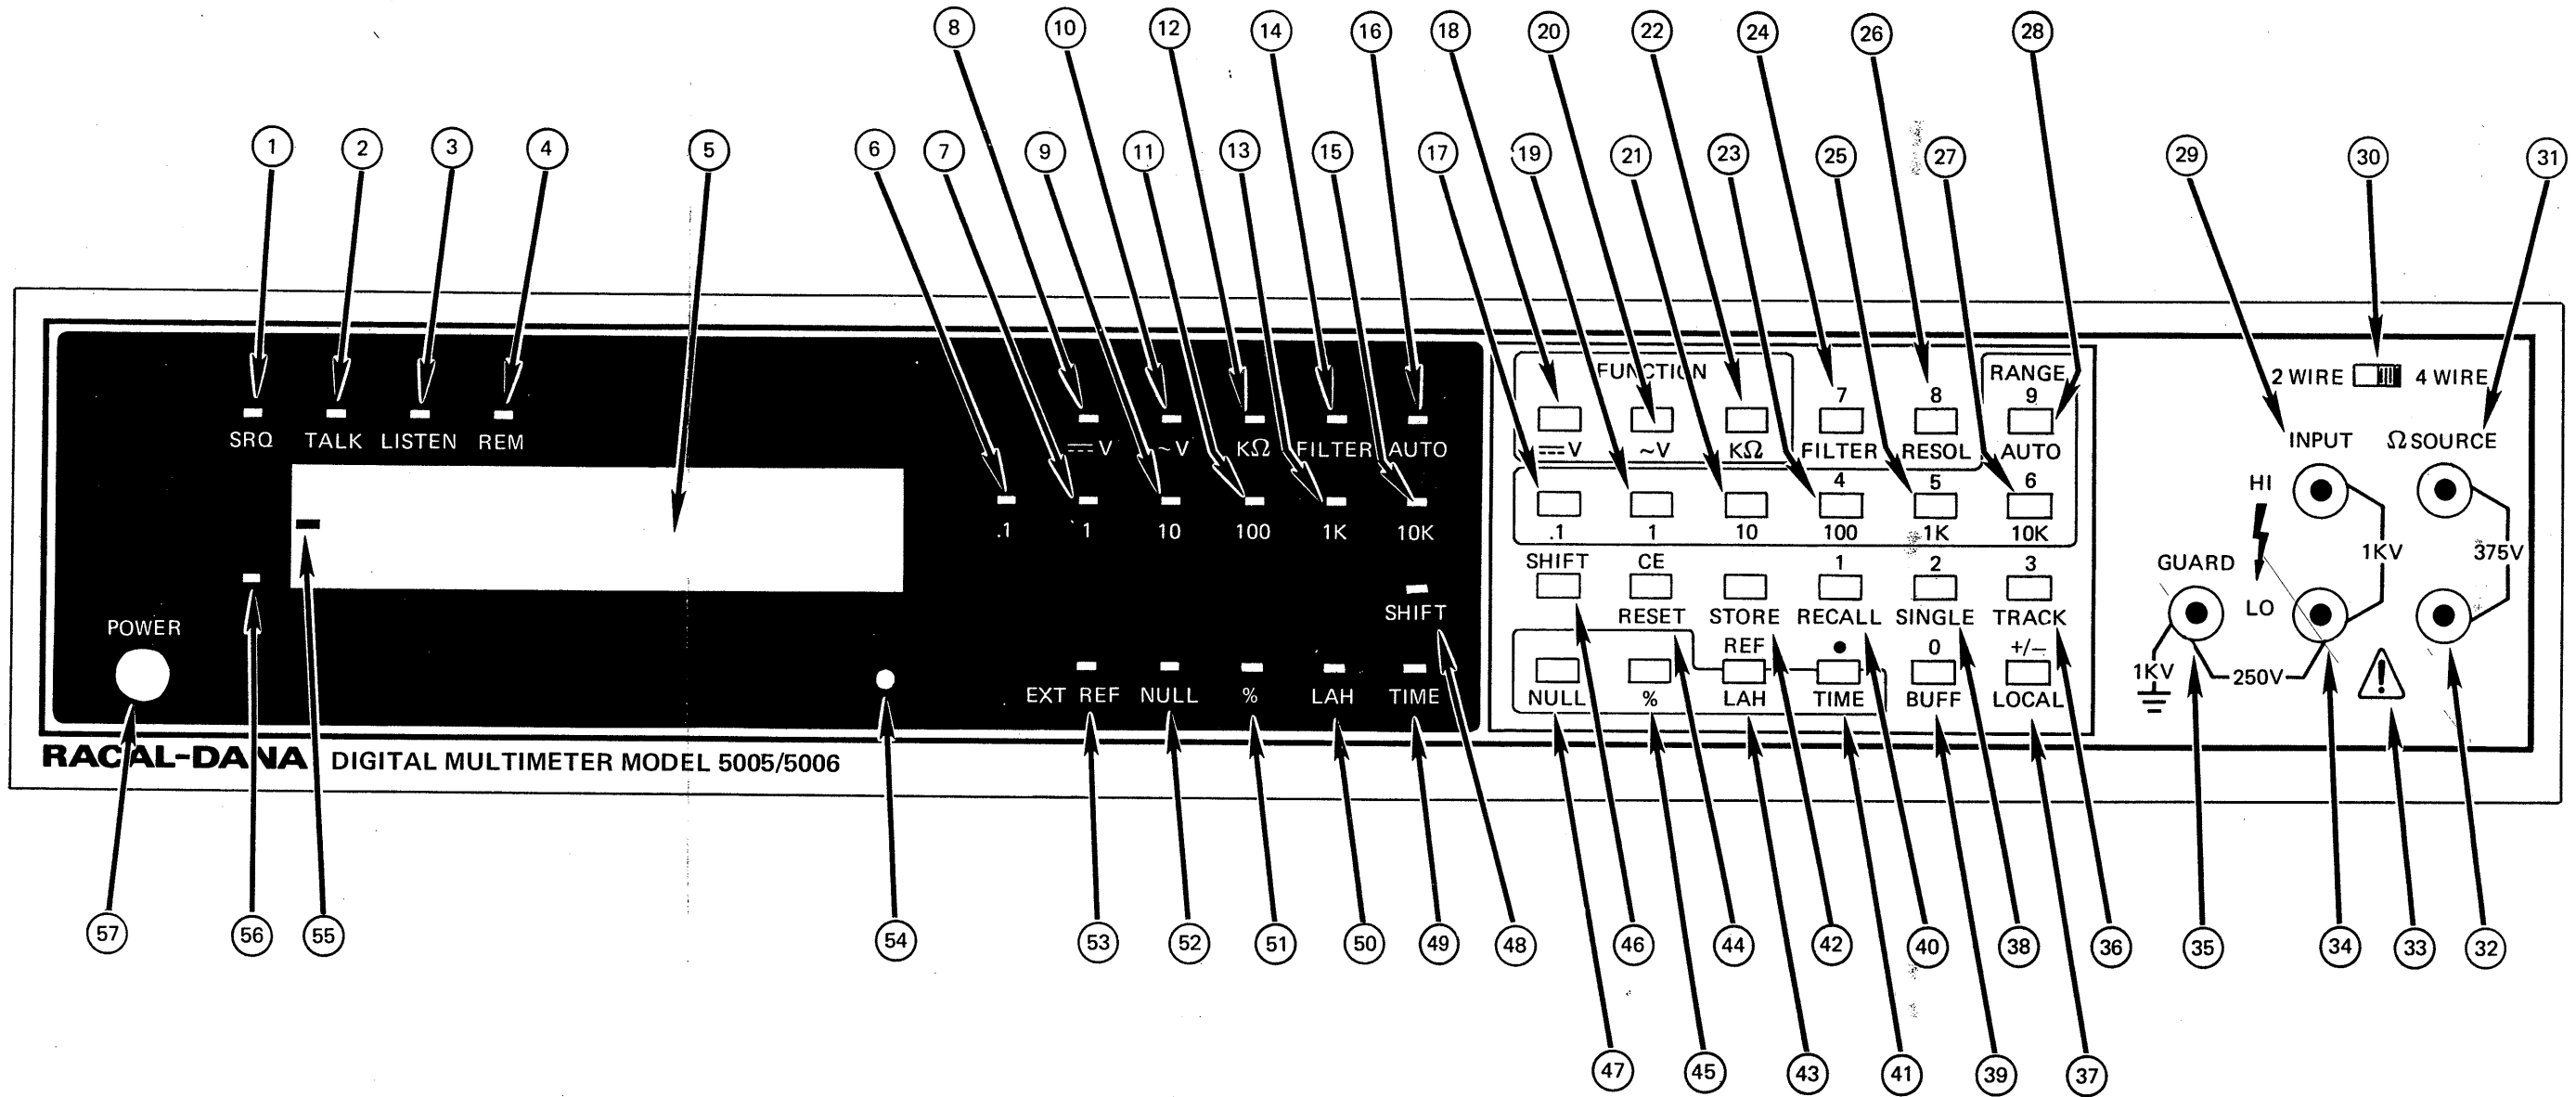
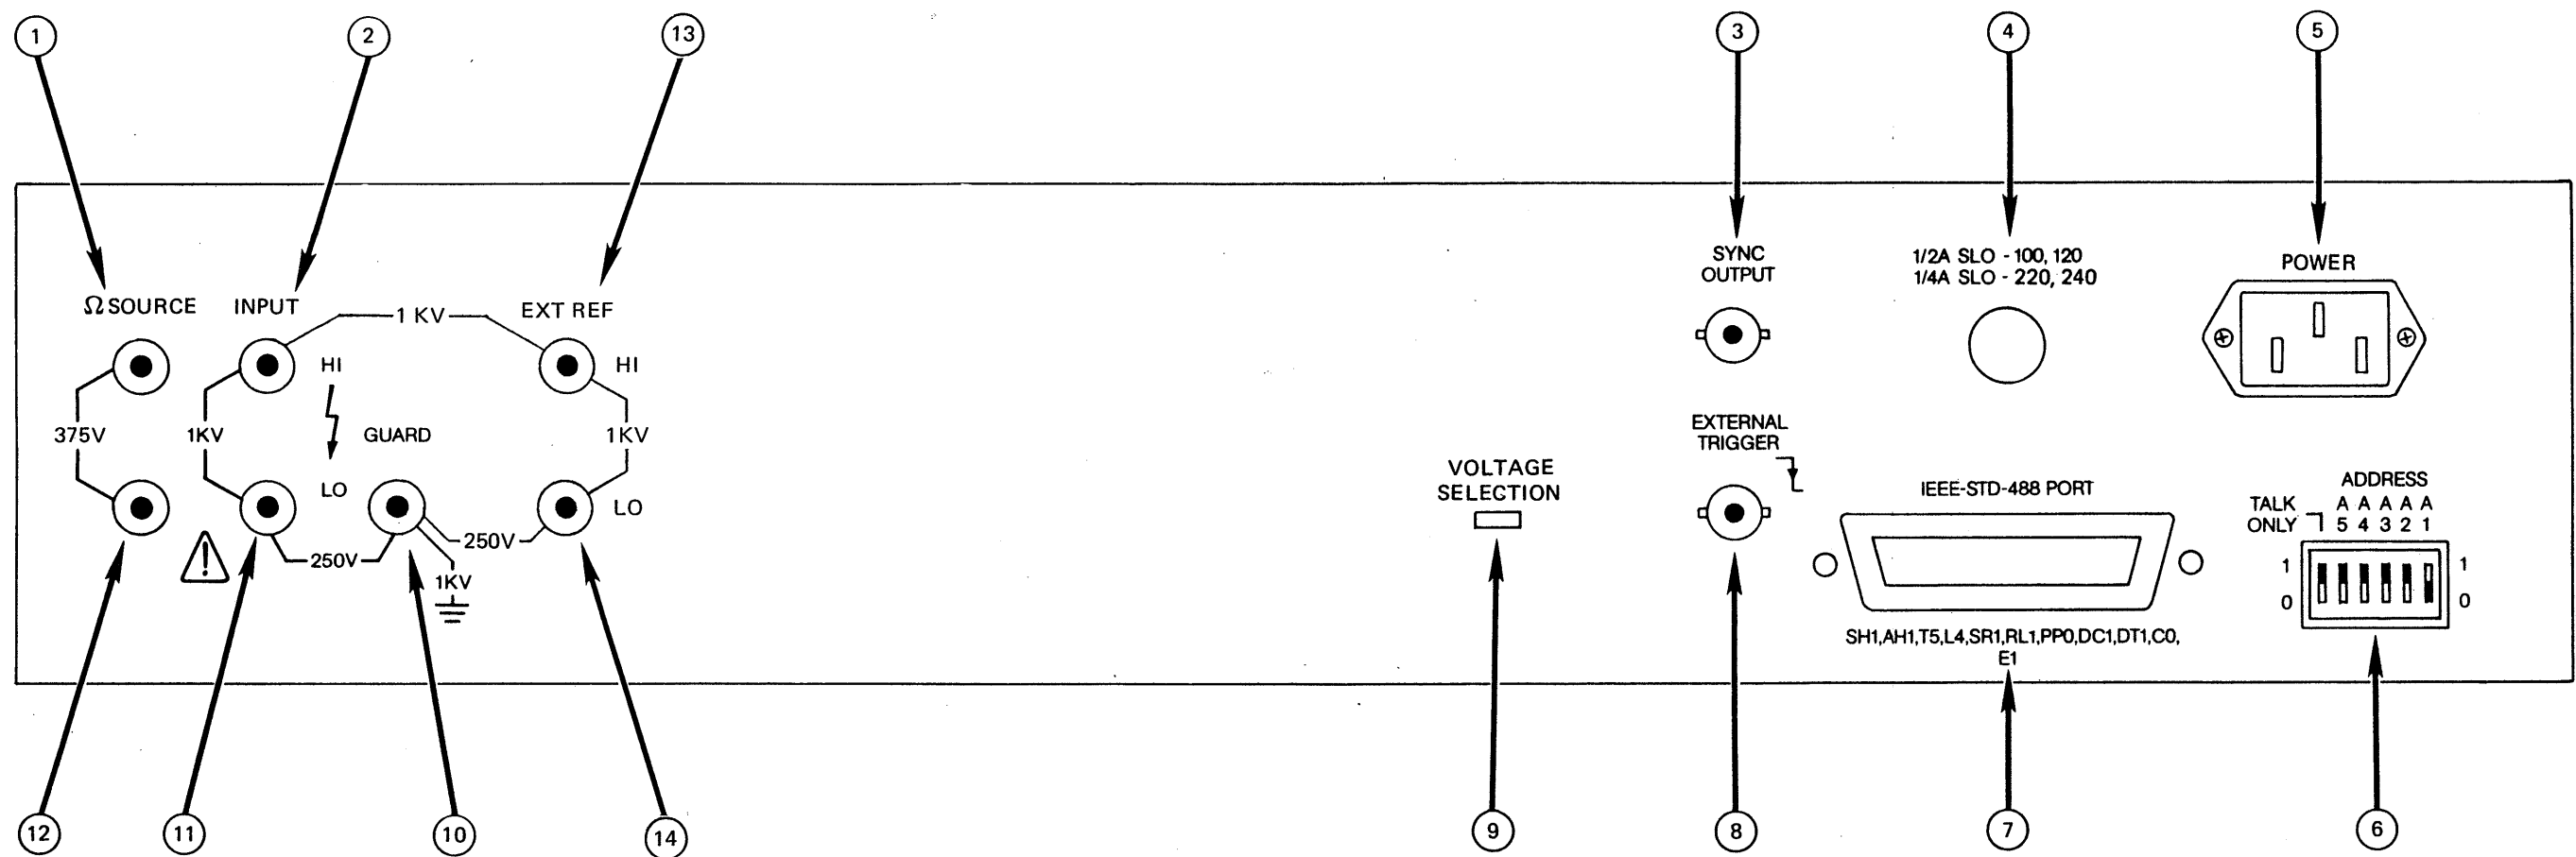

Figure 3.1 - Front Panel Location Guide
Figure 3.2 - Rear Panel
3.3.2 The panel designators, keyboard switches (refer to as key) and locations for all controls, indicators, and connectors are illustrated on Figure 3.1 and Figure 3.2. The description for each are itemized in Table 3.1 and Table 3.2.